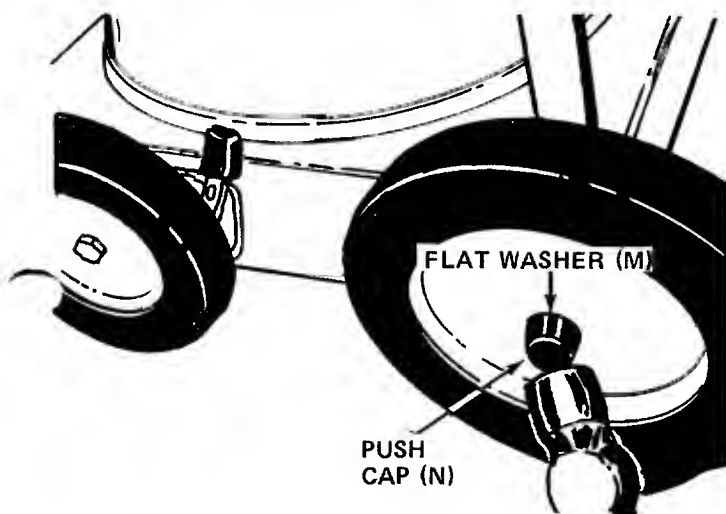

FIGURE 5
7. Place rear wheels in position on the shafts, then another flat washer (M). Secure with black push cap (N) by placing the push cap in position and tapping on with hammer or rubber mallet. See figure 5.